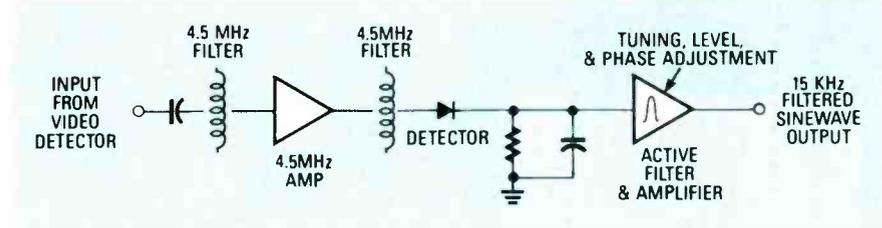

FIG. 3—THIS BLOCK DIAGRAM shows the system used to recover the descrambling sinewave required by a sinewave decoder.
The frequencies used by communications satellites are also located in the SHF part of the spectrum. Because, with their relatively short wavelengths, microwaves act like light, they can be treated like light. The familiar satellite dish (see Fig. 3) is actually the radio equivalent of a reflecting telescope. The purpose of the dish in a receiving installation is to collect the microwave signals coming from a satellite transponder and focus them on an antenna (called a probe) located at the dish's focal point (within a feedhorn). Similarly, in a transmitting set-up, the
**FIG. 3—BECAUSE THEY HAVE PROPERTIES similar to those of light, microwave signals can be collected and focused on an antenna element by a metallic surfaced reflector. That property is the basis of the satellite dish. The satellite dish is the radio equivalent of the optical reflecting telescope.**
Figure 3 shows a block diagram of a circuit that could be used to recover the decoding sinewave. The 4.5-MHz sound subcarrier is taken from the video detector. It could also be taken from the TV set's sound/sync detector, if the set has one (not all do), or, if possible, from the sound IF before limiting has taken place.